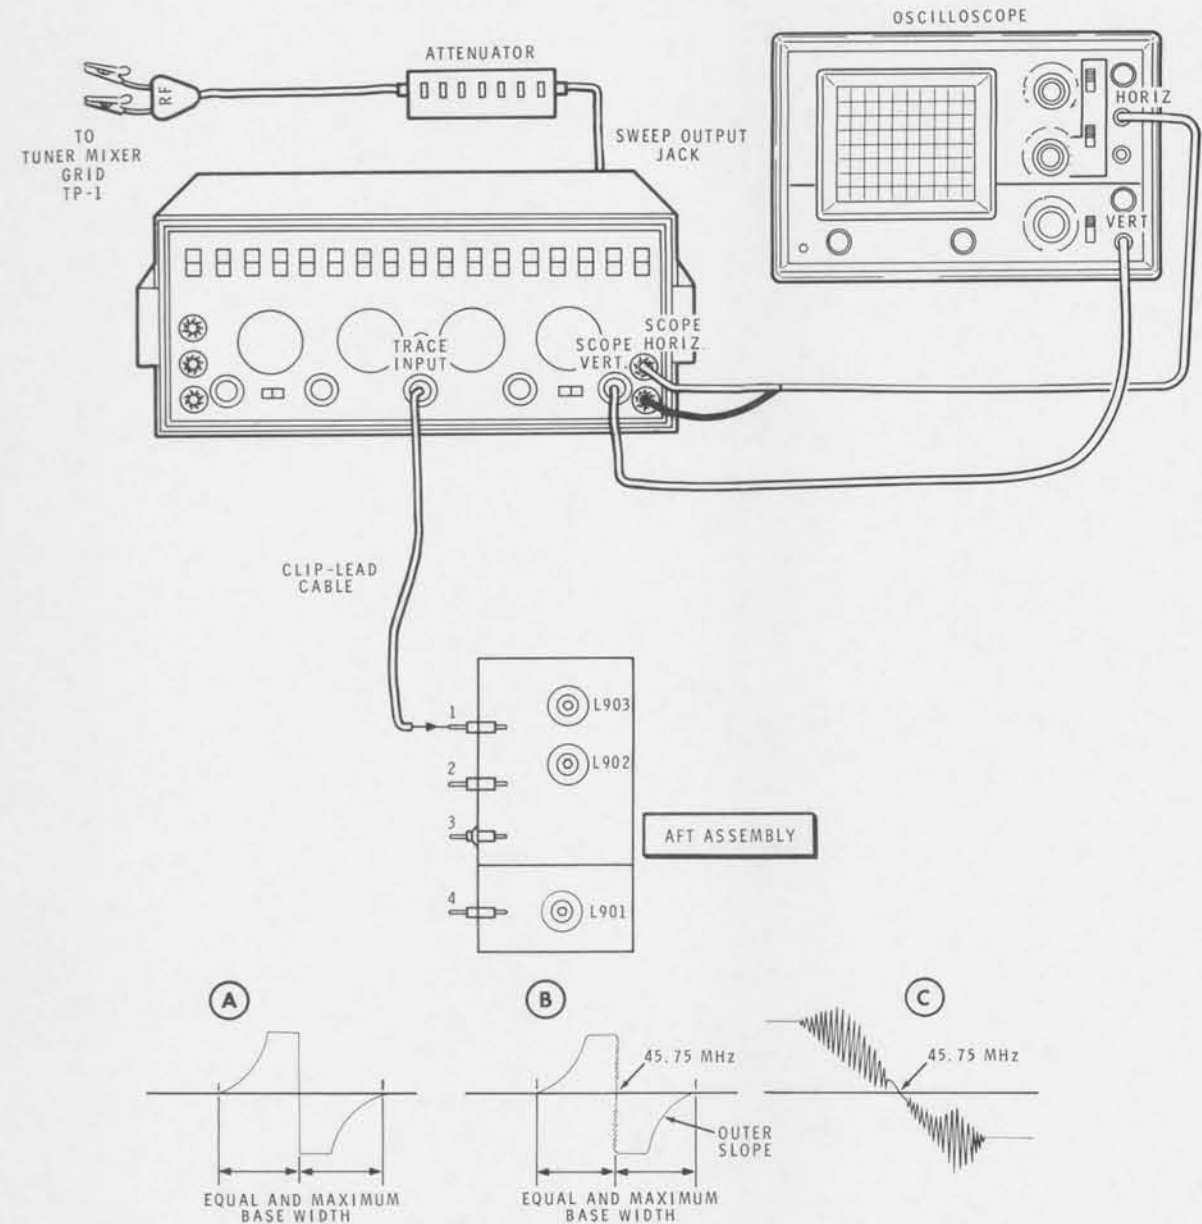

FIGURE 23
7. Connect the oscilloscope and generator together as shown in Figure 23 (fold-out from Page 81).
Refer to Figure 23 for the following steps,
- ( ) Adjust the output of the sweep generator until the top and bottom peaks of the waveform are just clipped as shown in Part A of Figure 23. NOTE: If the AFT was completely misaligned, a waveform may not be obtained. In this case, adjust the sweep generator for maximum output disregarding the absence of a waveform.